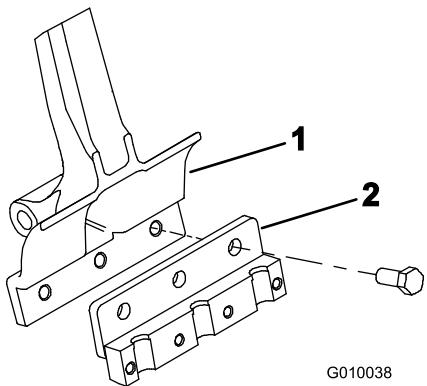

Figure 22
2. Mount a tine holder to each tine arm with 3 bolts (1/2 x 1-1/4 inches) (Figure 22). Torque the bolts to 75 ft-lb (101.6 N·m).